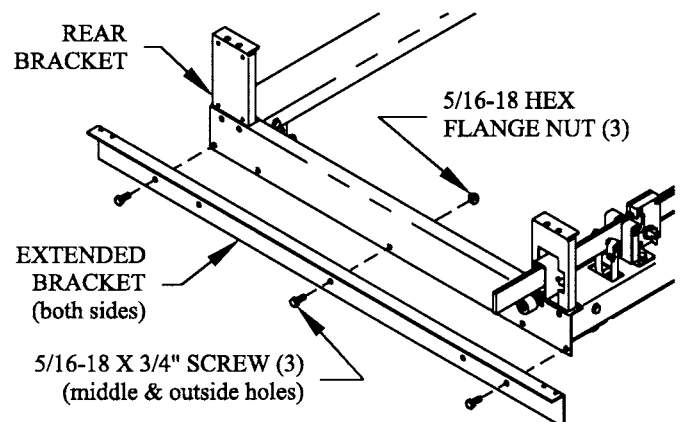

FIG. 4
STEP 4. For use with the low profile hopper (for other hoppers skip to step 6), attach the extended brackets (2) to each of the side rails using the 5/16-18 x 3/4" hex screws (3) & 5/16-18 hex flange nuts (3). The hardware and brackets come with the hopper. See Fig. 4.